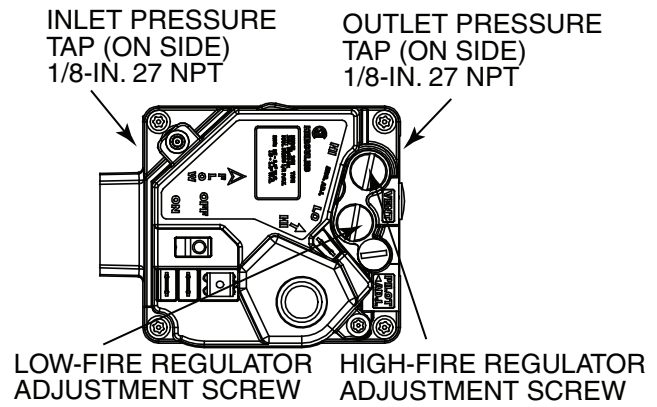

Fig. 93 — Two-Stage Gas Valve
6. Remove screw cap covering regulator adjustment screw (see Fig. 93).